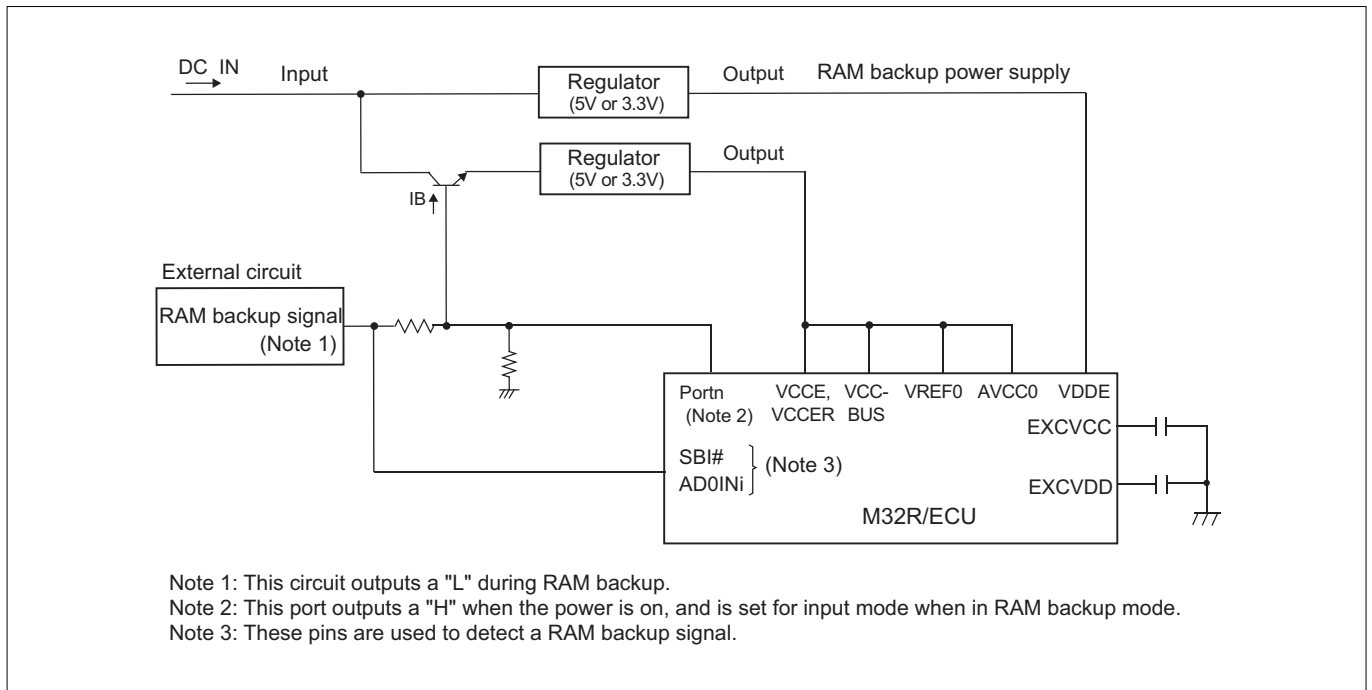

**Figure 19.2.3 Power Outage RAM Backup State**
Figure 19.2.3 shows the power outage RAM backup state of the M32R/ECU. When the power supply goes off, the power supply monitor IC starts feeding current from the backup battery to the M32R/ECU. Also, the power supply monitor IC's power outage detection pin outputs a "L," causing the SBI# pin or AD0INi pin to go "L," which generates a RAM backup signal ((a) in Figure 19.2.3). Determination of whether the power is off must be made with respect to the DC IN (regulator input) voltage in order to allow for a software processing time at power outage.
- (1) Create data for RAM check to verify whether the RAM data has been retained normally after returning from RAM backup mode to normal mode ((b) in Figure 19.2.3).
If the power supply to VCCE goes off after making above setting, the VDDE pin voltage goes to 3.0–3.3 V and all other pin voltages drop to 0 V, and the M32R/ECU is thereby placed in RAM backup mode ((c) in Figure 19.2.3).